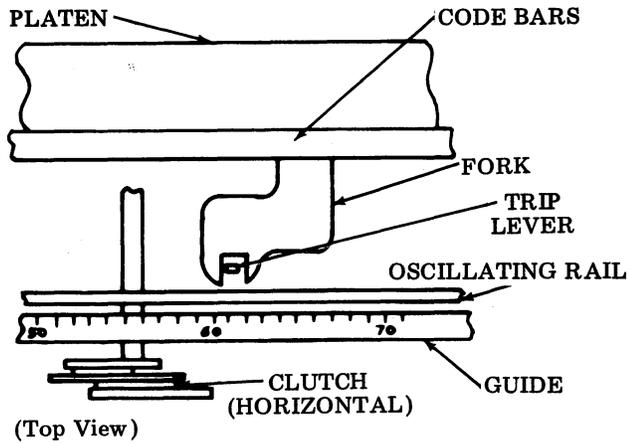

Figure 6 - Codebar Fork and Clutch Trip Lever Alignment
(2) View the typing unit from the top and check the alignment of the four horizontal positioning clutch trip levers with the codebar forks. The correct alignment is shown in Figure 6. If corrective action is required, lift up the codebar fork and position the Number 4 horizontal trip lever